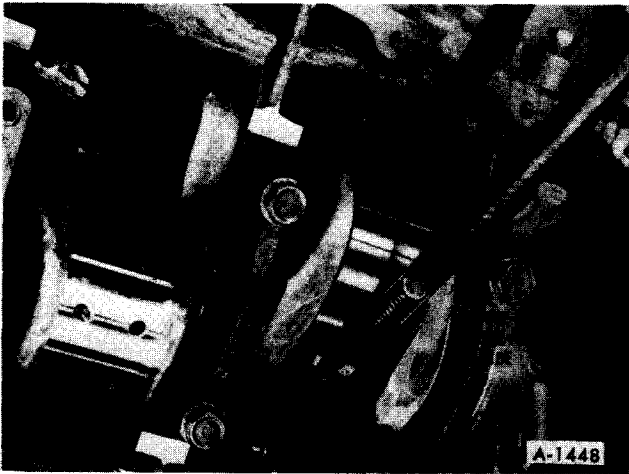

Figure 43—Connecting Rod Bolt Guide
4. Install guide hose over threads of rod bolts. This is to prevent damage to bearing journal and rod bolt threads (figure 43).
1. Install connecting rod bolt guide hose over rod bolt threads (figure 43).